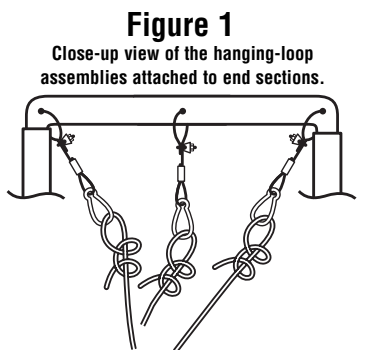

Figure 1
- After hanging the net on the middle frame sections, making sure that it does not sag more than 1-2', pull the ropes towards the end frames to stretch it out. Attach each rope to the end frame sections with the corresponding hanging-loop assemblies. **See Figure 1.**